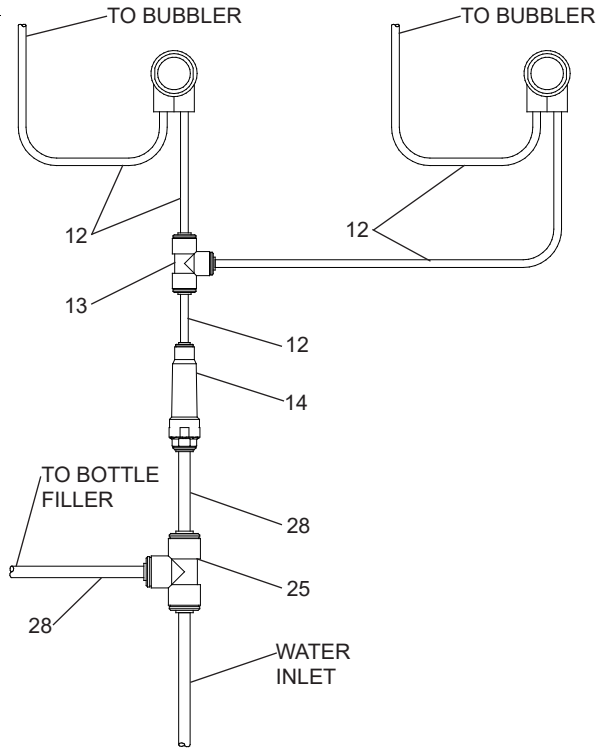

Figure 2 - HTHB-OVLSEBP-I Tube Routing
- 3a. (For HTHB-OVLSLEBP-I) Install 3/8" tee, poly tubing and strainer per (Fig. 2).